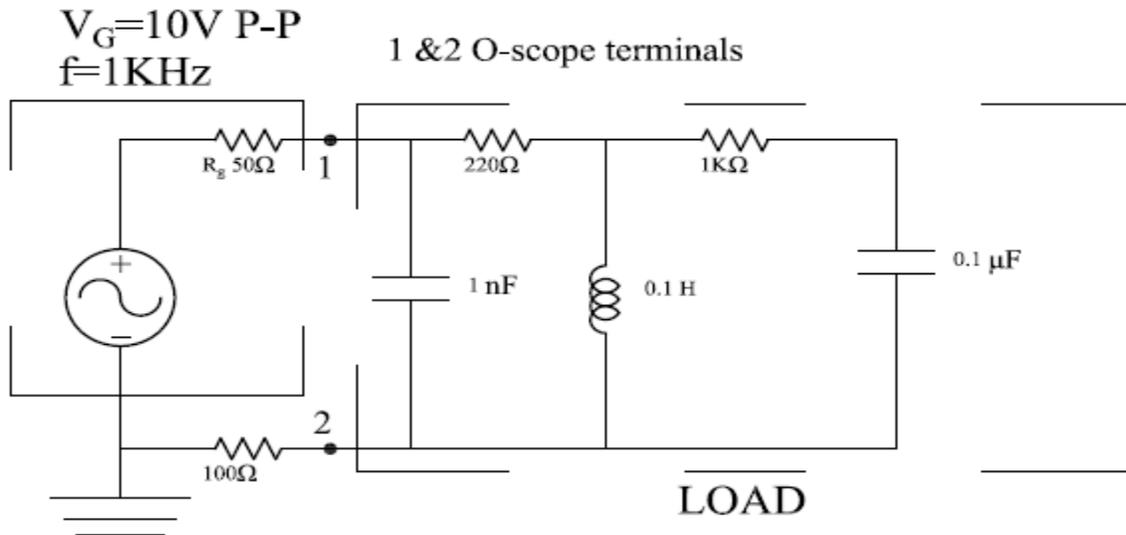

Fig 1: experimental circuit
1. Consider the circuit of Figure 1.
- b) Given $V_G = 5V$, calculate the phasor current (I), V_{RM} (maximum voltage across the $100\ \Omega$ resistor), V_{LM} (maximum load voltage), and pf (load power factor).
2. Use the oscilloscope to measure the phase angle between the load voltage and load current (measured through the 100Ω resistor). Connect the O-scope and circuit as in Figure 1. (Note: since the signal generator and O-scope are both internally grounded to the power line, measuring the phase angle between the load voltage and the current is not straightforward).